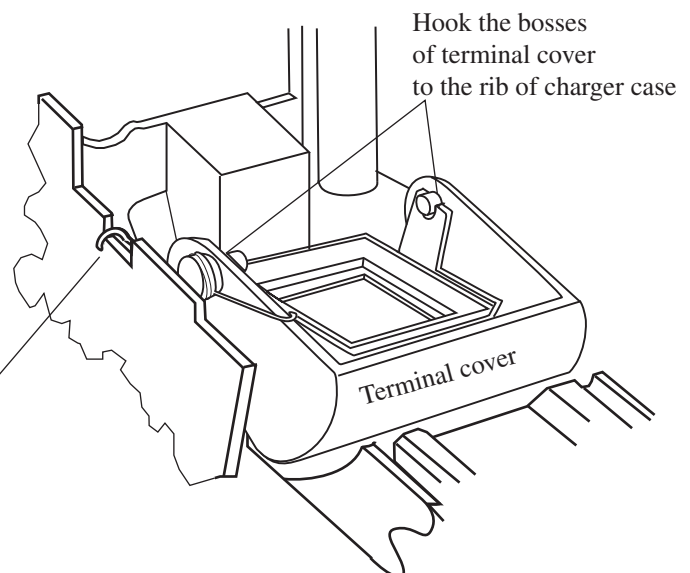

Fig. 6
3. Hook the torsion spring 14 to the rib of charger case from its inside as illustrated in Fig. 6.
4. Hook the boss of terminal cover to the rib of charger case as illustrated in Fig.6.